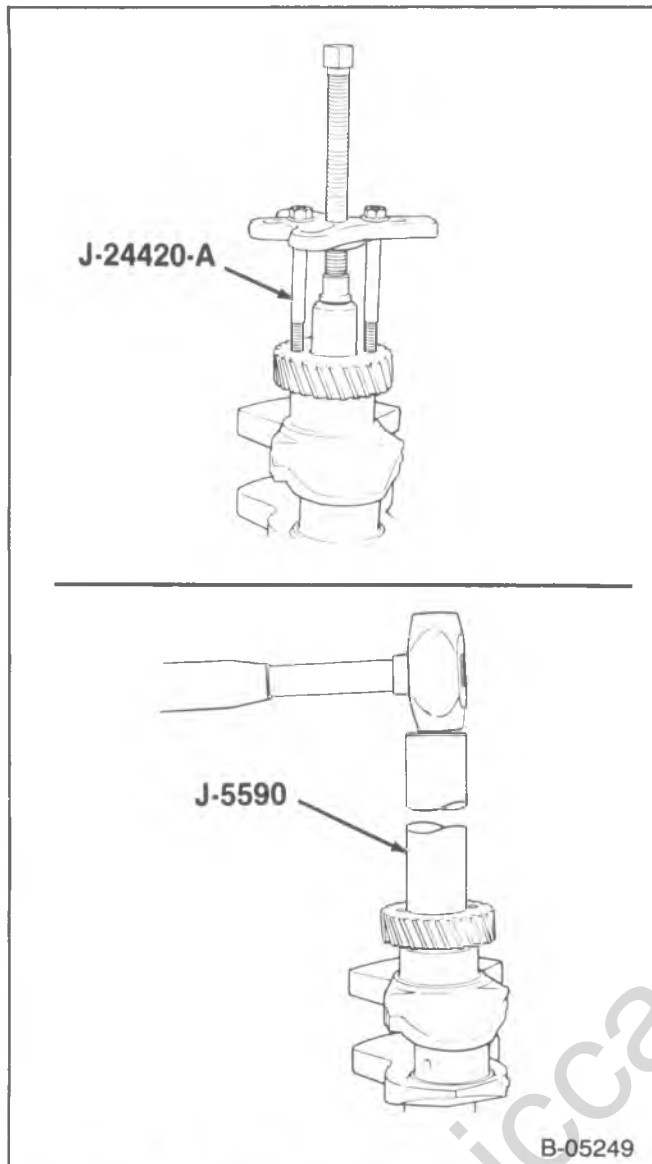

Figure 38—Replacing The Crankshaft Gear
Remove or Disconnect (Figure 38)
2. Crankshaft gear. Use J-24220-A (figure 38).
1. Crankshaft gear. Use J-5590 (figure 38). Make sure the timing mark faces out.